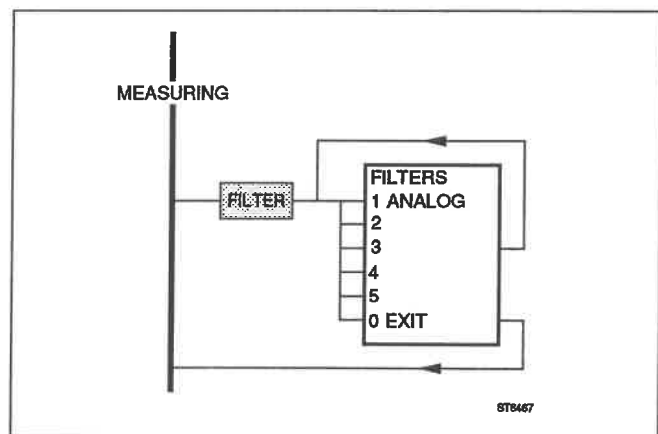

Fig. 4.30 Analog Filter menu.
- press **FILTER** to invoke the filter menu (Fig. 4.30).